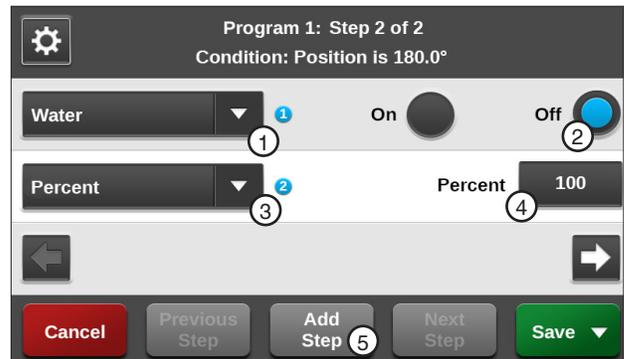

Figure 109-2 1. Water Command 2. Water Off 3. Percent Command 4. Percent 5. Add Step
6. Enter the commands to execute at this position. Refer to Figure 109-2.